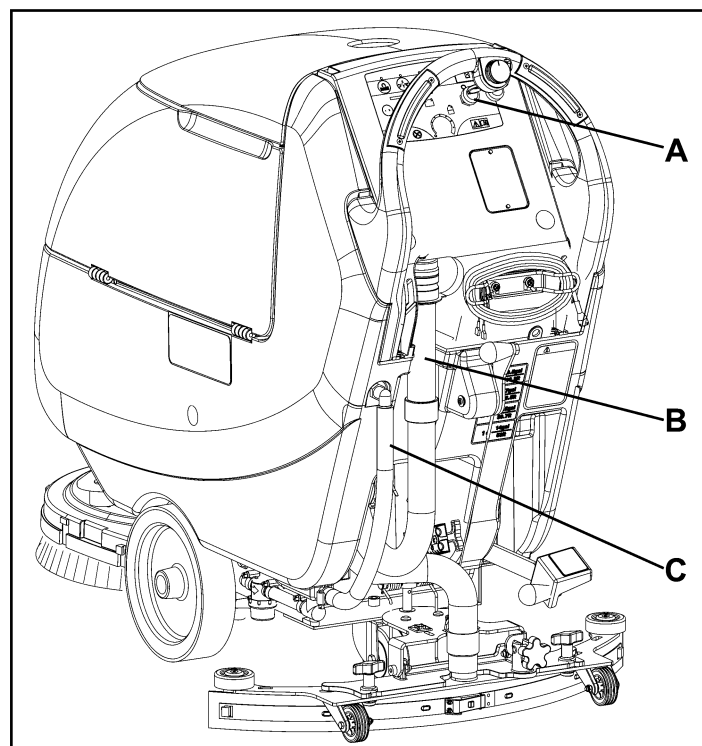
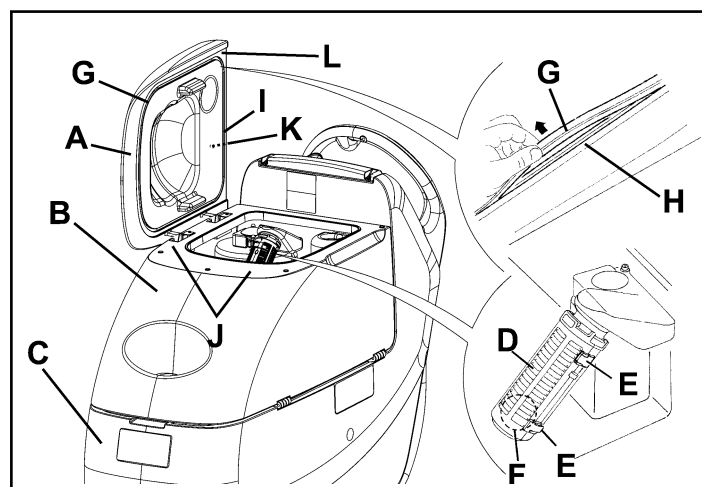

Figure 32
Figure 33
2. Turn the ignition key (A, Fig. 32) to "0".
3. Open the tank cover (A, Fig. 33) to position (L).
4. Wash with clean water the cover (A), the tanks (B and C) and the vacuum grid with automatic shut-off float (D).
5. Drain the water from the tanks with the hoses (B and C, Fig. 32).
If necessary, disengage the fasteners (E, Fig. 33) and open the grid (D); recover the float (F), clean all the components and then reinstall them.
6. Check the tank cover gasket (G) for wear.